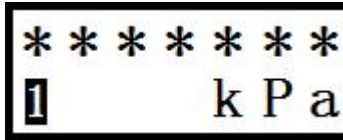

Figure23
2.3 Enter "Confirm" once to enter the variable view. The first variable appears "current pressure/differential pressure value", engineering units and their serial numbers, as shown in Figure 23 (assuming the
again, as shown in Figure 23;